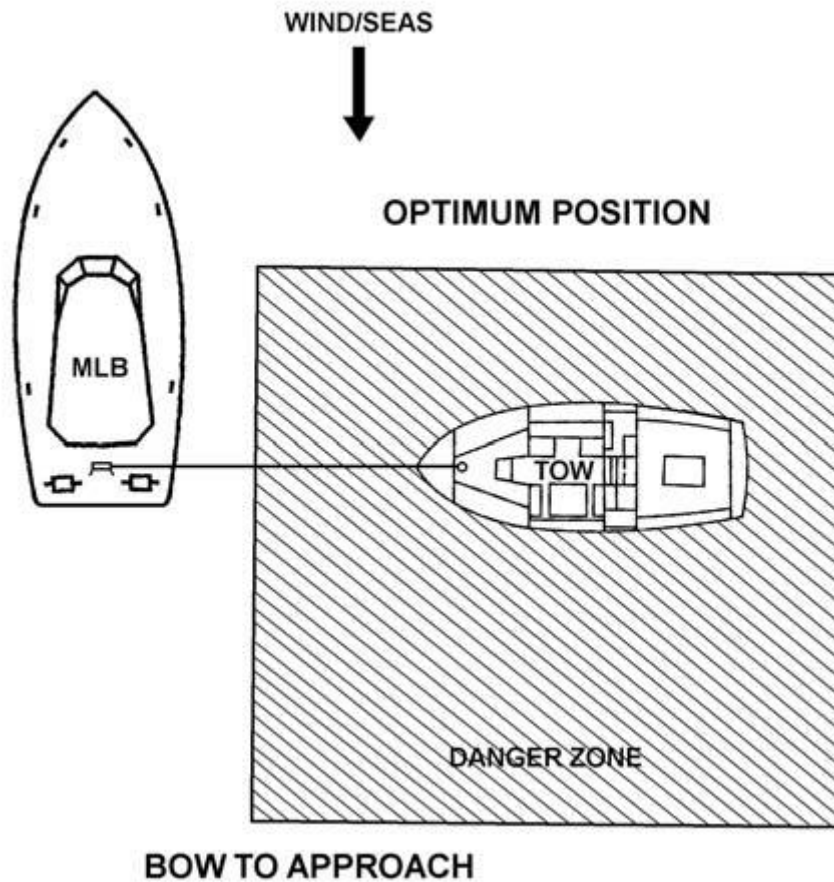

Figure 20-11
The towing approach in heavy weather is to set up down-swells of the disabled boat with the bow into the seas. When the crew is ready, the VO drives the boat into optimum position. (See **Figure 20-11**) It may be necessary to use more power than in calm conditions to get steerageway and make a straight-line approach. Conditions may require stopping below or above optimum position to pass a heaving line.
- Begin the transition in optimum position (See **Figure 20-11**).